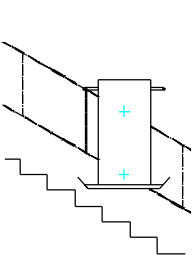

Fig. 1.1
3. Press the hand lever for brake release and turn the hand wheel until reaching the next half-landing or straight part of the staircase (see fig 1.1). Do not stop at a curved area of the rail.